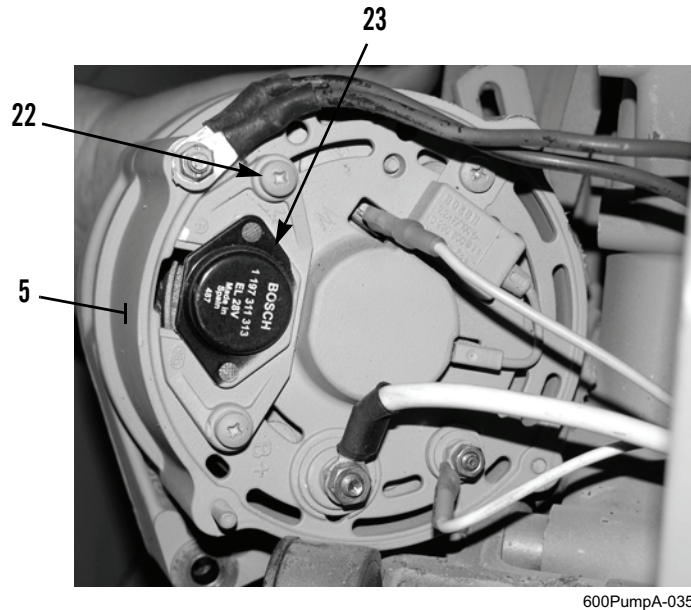

Figure 3. Voltage Regulator.
1. Remove two screws with captive washers (Figure 3, Item 22) and voltage regulator (Figure 3, Item 23) from alternator (Figure 3, Item 5).